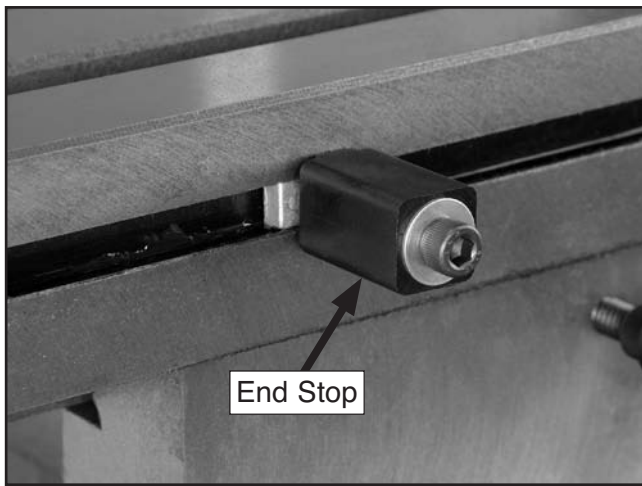

Figure 15. End stop.
7. Insert the end stops into the slot on the front edge of the table, then tighten them (**Figure 15**).